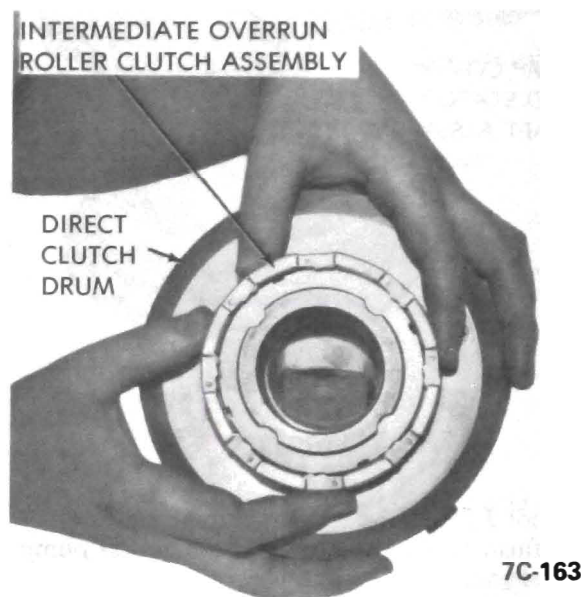

Figure 7C-98
4. Remove direct clutch drum to forward clutch housing needle roller bearing. See Figure 7C-99.